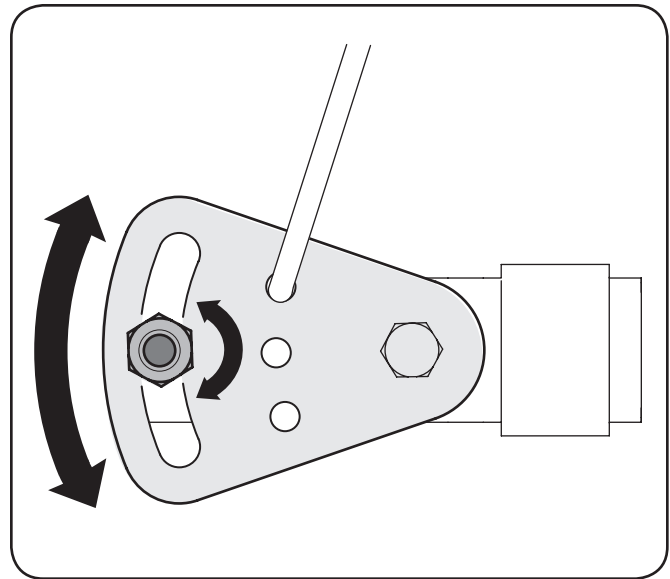

Figure 6-4
If the full range of speeds (forward and reverse) cannot be achieved, refer to the Figure 6-4 and adjust the shift cable as follows:
2. Loosen the hex nut on the shift cable index bracket. See Figure 6-4.
NOTE: There are extra holes in the speed selector bracket shown in Figure 6-4 for further adjustment of the cable if required.